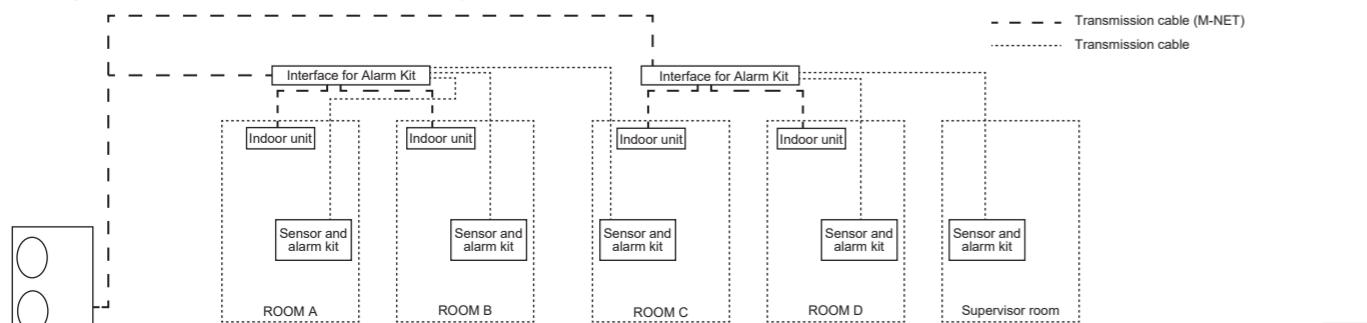

Fig. 5-4
- Never connect the indoor unit and the Sensor and alarm kit that are installed in the same room to different Power Supply Interfaces for Alarm Kit. (See Fig. 5-4.)